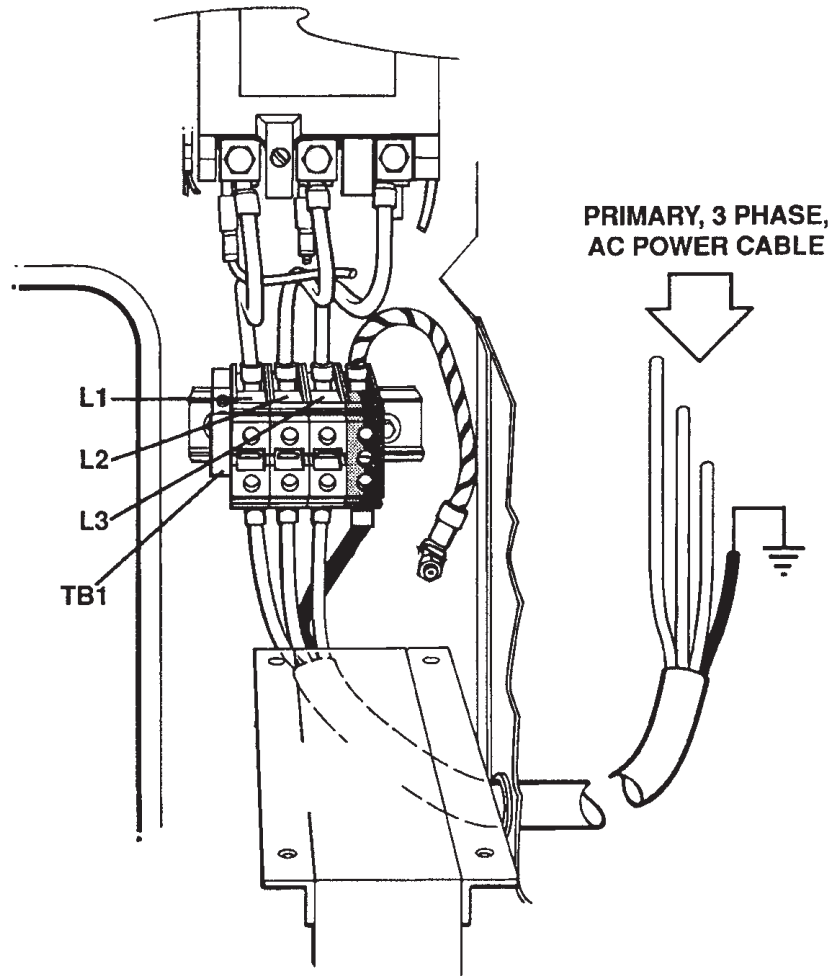

Figure 8-1 Primary Power Measurement Location – HT2000
5. Measure the voltage at TB1 between L1, L2 and L3. Refer to Figure 8-1 for detail of TB1. The voltage between any two of the three points at TB1 should be equal to your supply voltage (200, 208, 220, 240, 380, 415, 480, or 600VAC). If there is a problem at this point, disconnect main power and check connections, power cable, and fuses at line disconnect switch. Repair and/or replace defective component(s) if necessary.